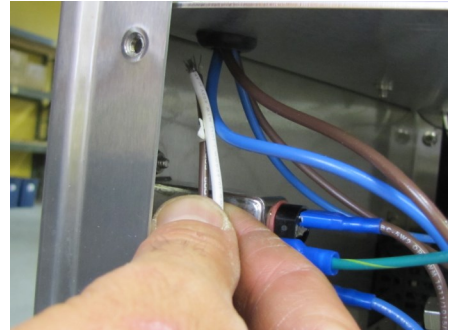

Figure 21
21. Feed the #15 brown and #9 white wires from the valve motor through the grommet as shown in Figure 21.